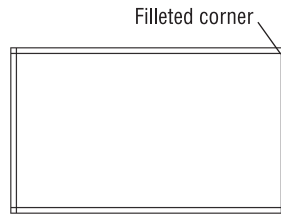

FIGURE 4.6: The first corner is filleted.
9. Click any two lines that form an inside corner. Be sure to click the part of the lines you want to remain after the fillet is completed. (Refer to Chapter 2 to review how the Fillet command is used in a similar situation.) Both lines will be trimmed to make an inside corner (see Figure 4.6). The Fillet command automatically ends after each fillet.